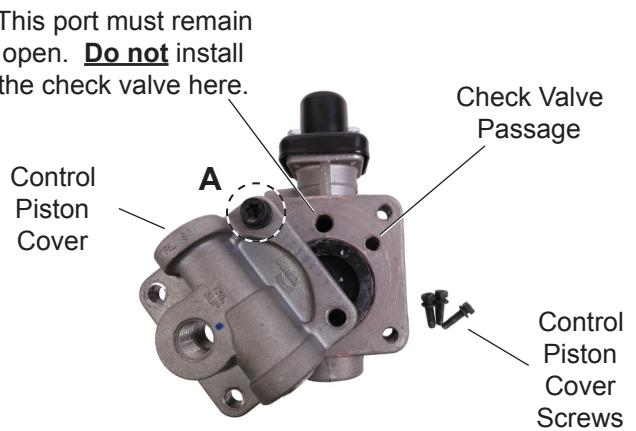

Figure 5 – Check Valve Passage
3. Remove cover screws "B", "C", and "D". While holding the control piston cover in place, loosen cover screw "A" 4-5 turns. Carefully rotate the cover clockwise – pivoting on screw "A" – until the check valve passage in the body is visible. Hold the cover in this position to retain the control piston in the body. (Refer to Figure 5.)